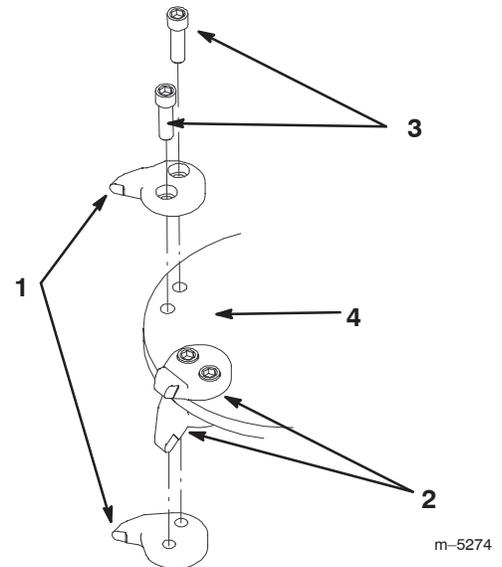

Figure 10
3. Manually rotate the grinding wheel until you can access the teeth you want to replace (Fig. 10).
4. Remove the two bolts securing the teeth and discard the teeth (Fig. 10).
5. Install the new teeth on the disc in the same location and orientation as the teeth you removed using the existing mounting bolts (Fig. 10).